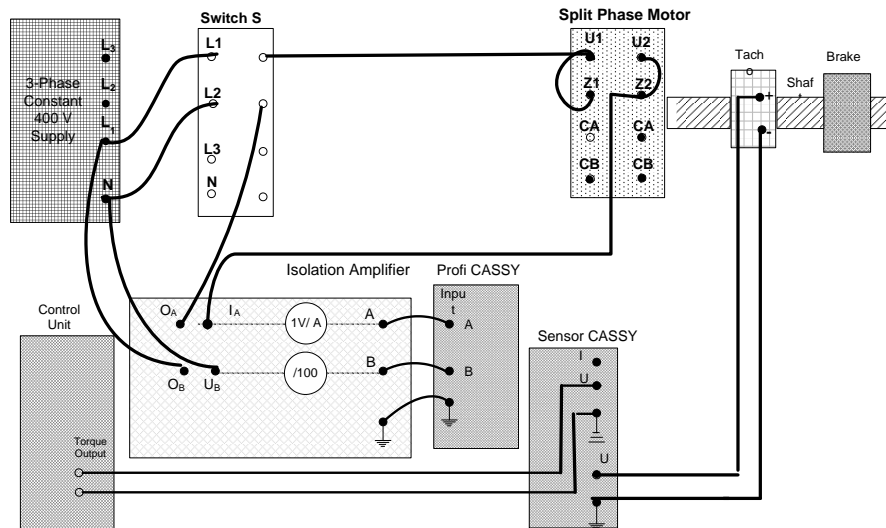
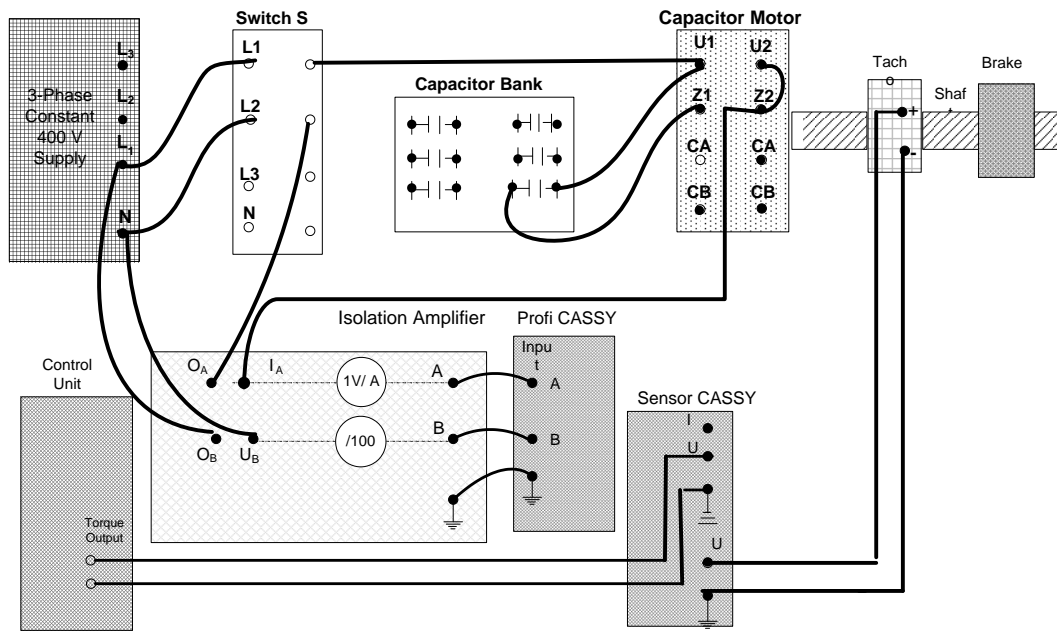

Figure 7: Wiring diagram of split phase induction motor
Figure 8: Wiring diagram of capacitor induction motor
1. Connect the "**split phase induction motor**" according to the circuit diagram shown in Figure 7.
7. Modify the circuit diagram of Figure 7 by adding a capacitor of $16\mu\text{F}$ between U1 and Z1 as shown in the circuit diagram shown of Figure 8.